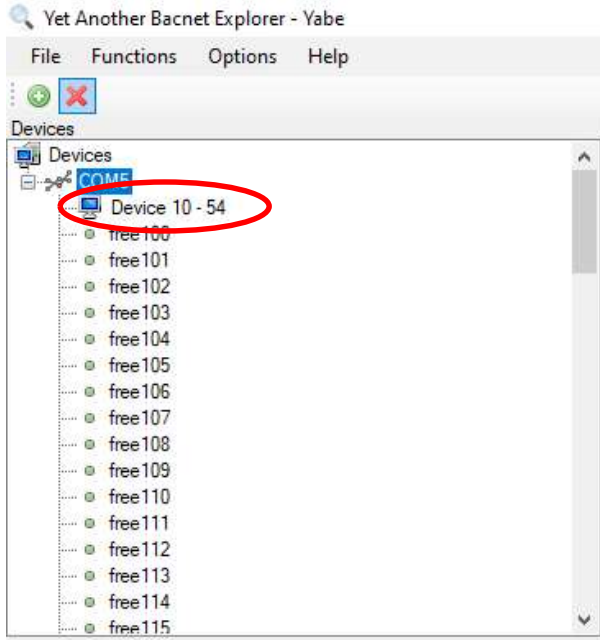

Figure D3
Steps 8 – 11 references Figures D3 and D4.
9. Left click on the *Device* computer screen image in the oval in Figure D3.